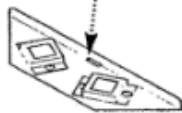

Fig. 60a
4. Remove the glass retaining assembly (Fig. 60a). At this point the bulb/s may be changed (see Section 9.7).